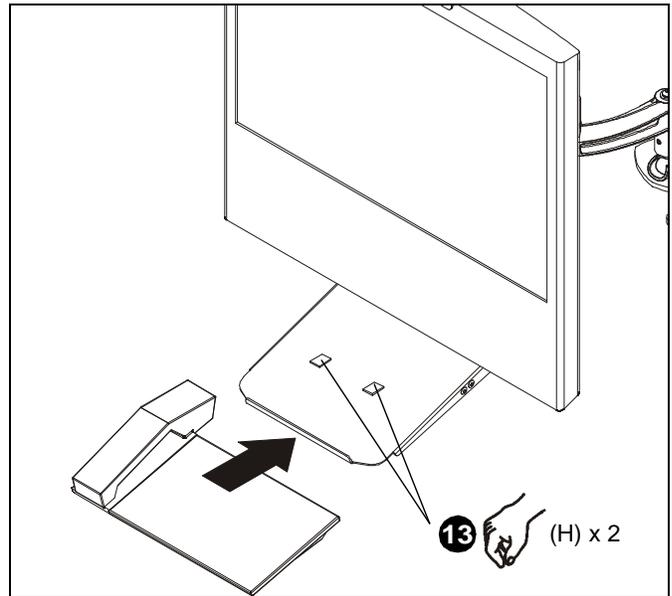

Figure 7
11. Put hook and loop (H) squares together so there are 2 squares.
13. Attach hook and loop squares to top of shelf assembly (B). (See Figure 7)